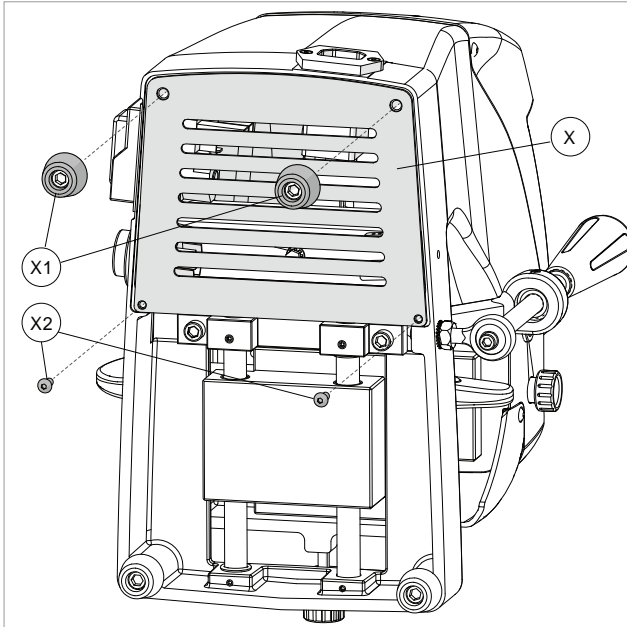

Fig. 49
**!** Turn off the master switch (P) and unplug the machine.
- 2) Loosen the 2 feet (X1), 2 screws (X2), and remove the bottom plate (X) (Fig. 49).